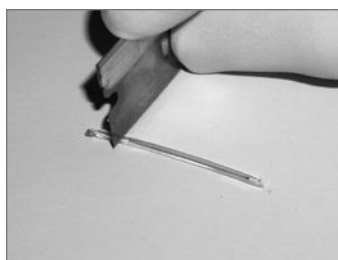

FIGURE 1
- 1) Using a razor blade or scalpel, carefully cut both ends of the protective sleeve around the IntegraFrit column without cutting into the fused silica column (Figure 1)